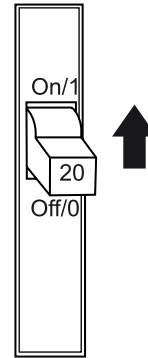

Figure 81. GFCI Circuit Breaker
2. Place a **GFCI circuit breaker** (Figure 81) in the **ON** position.